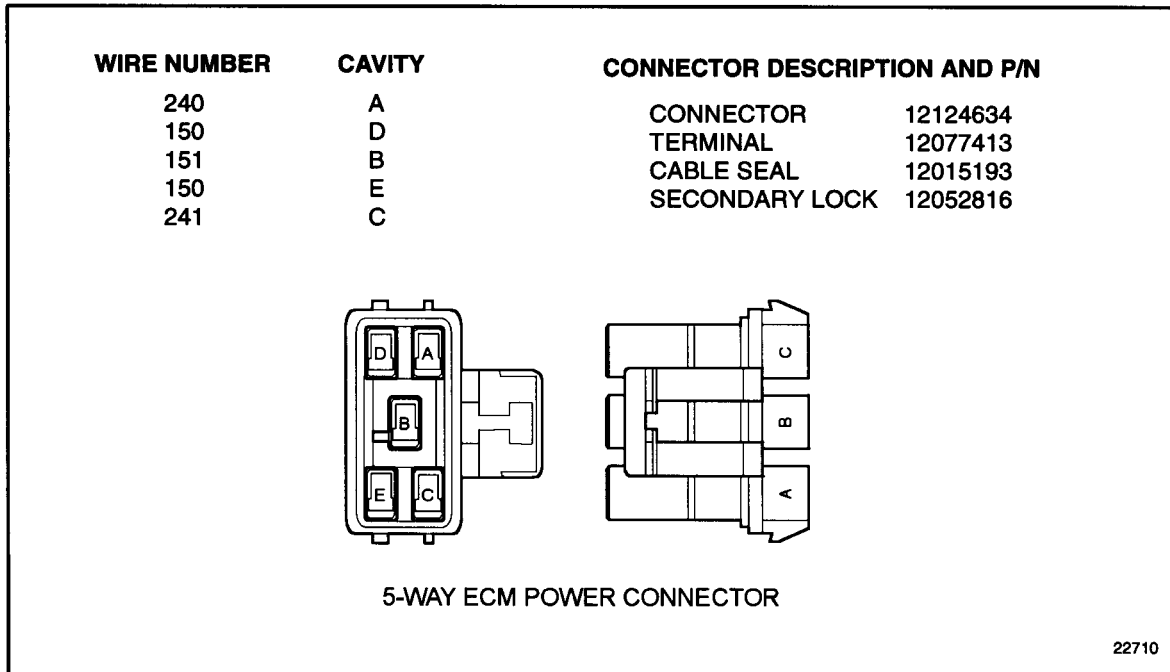
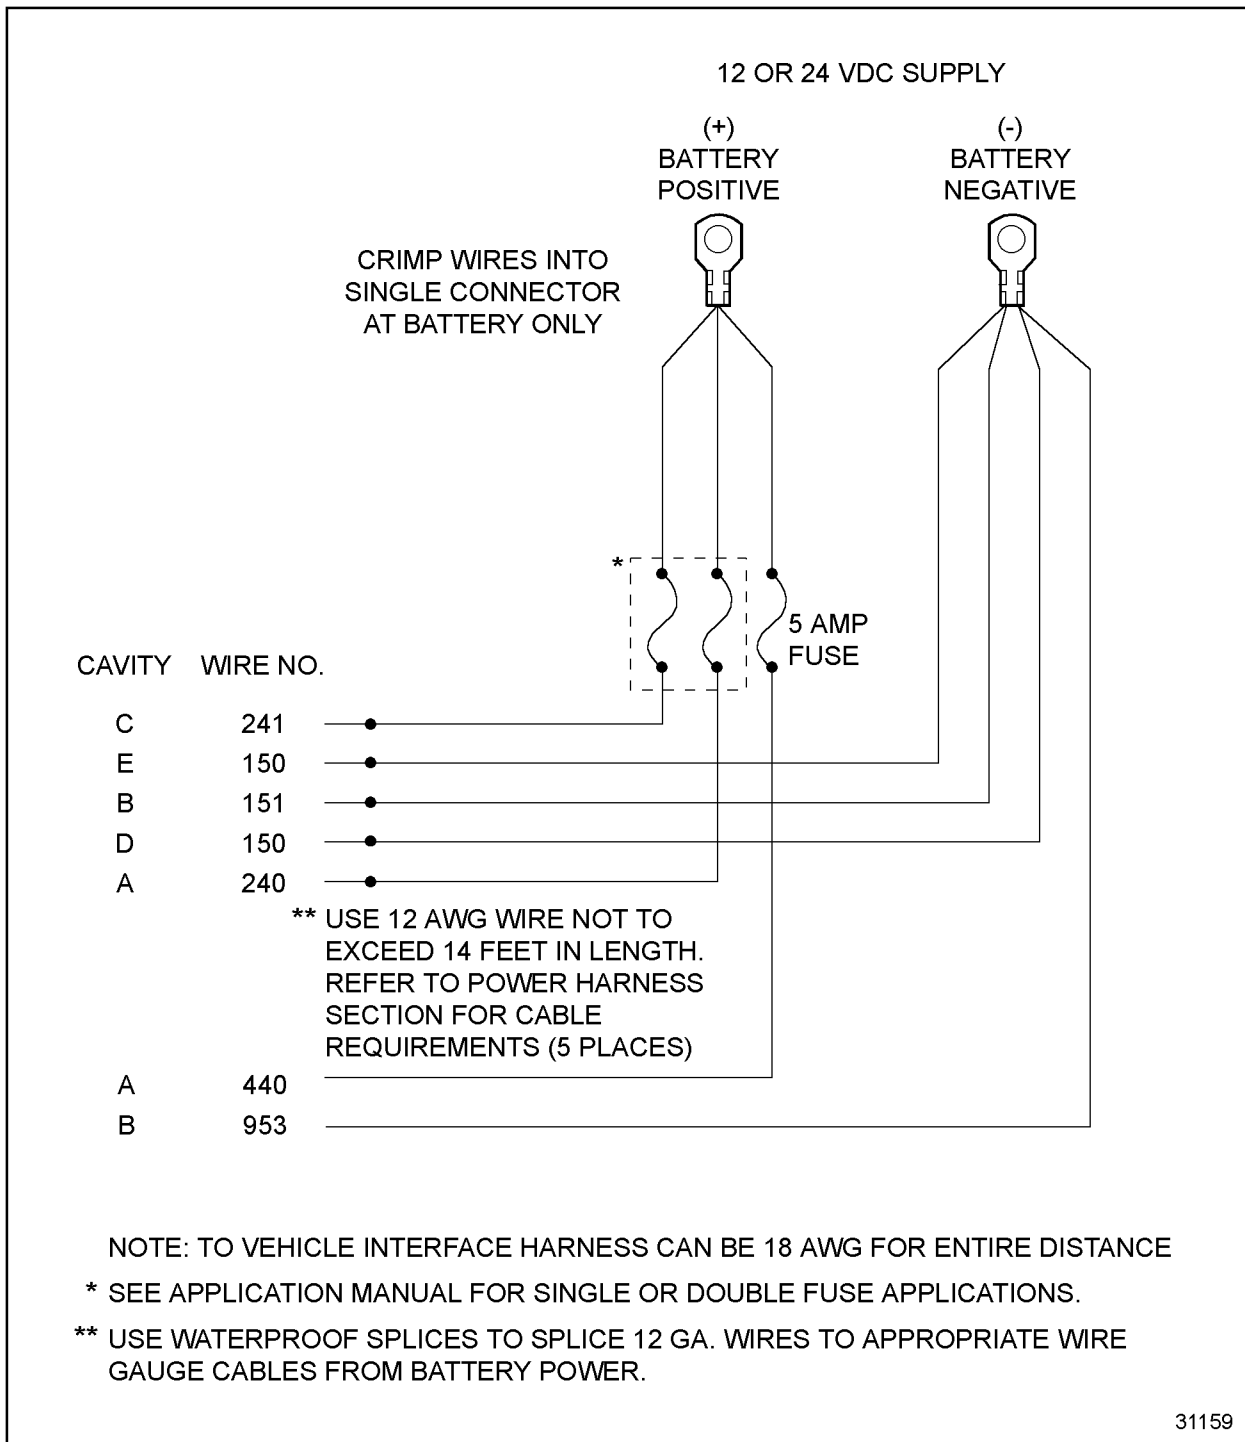

Figure 46-1 5-Way ECM Power Connector
Figure 46-2 Power Harness
3. Measure voltage from socket A and C (red lead) of 5-way power harness connector and a good battery ground (black lead). Don't use line (#151) as a ground reference. For 5-way ECM power harness connector, see Figure 46-1. For power harness schematic, see Figure 46-2.